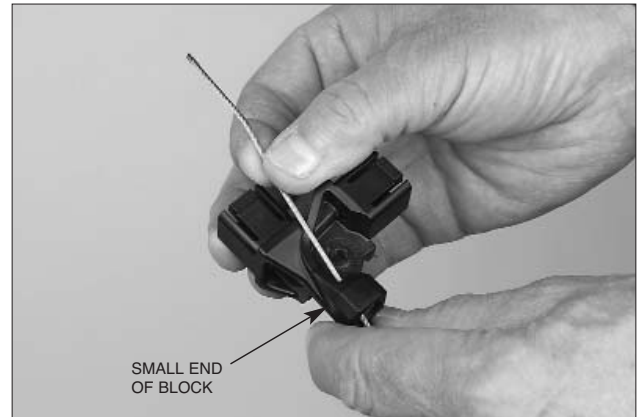

FIGURE 65
- Thread the wire rope through the small end of the block into the bearing area to be used. See Figure 65.